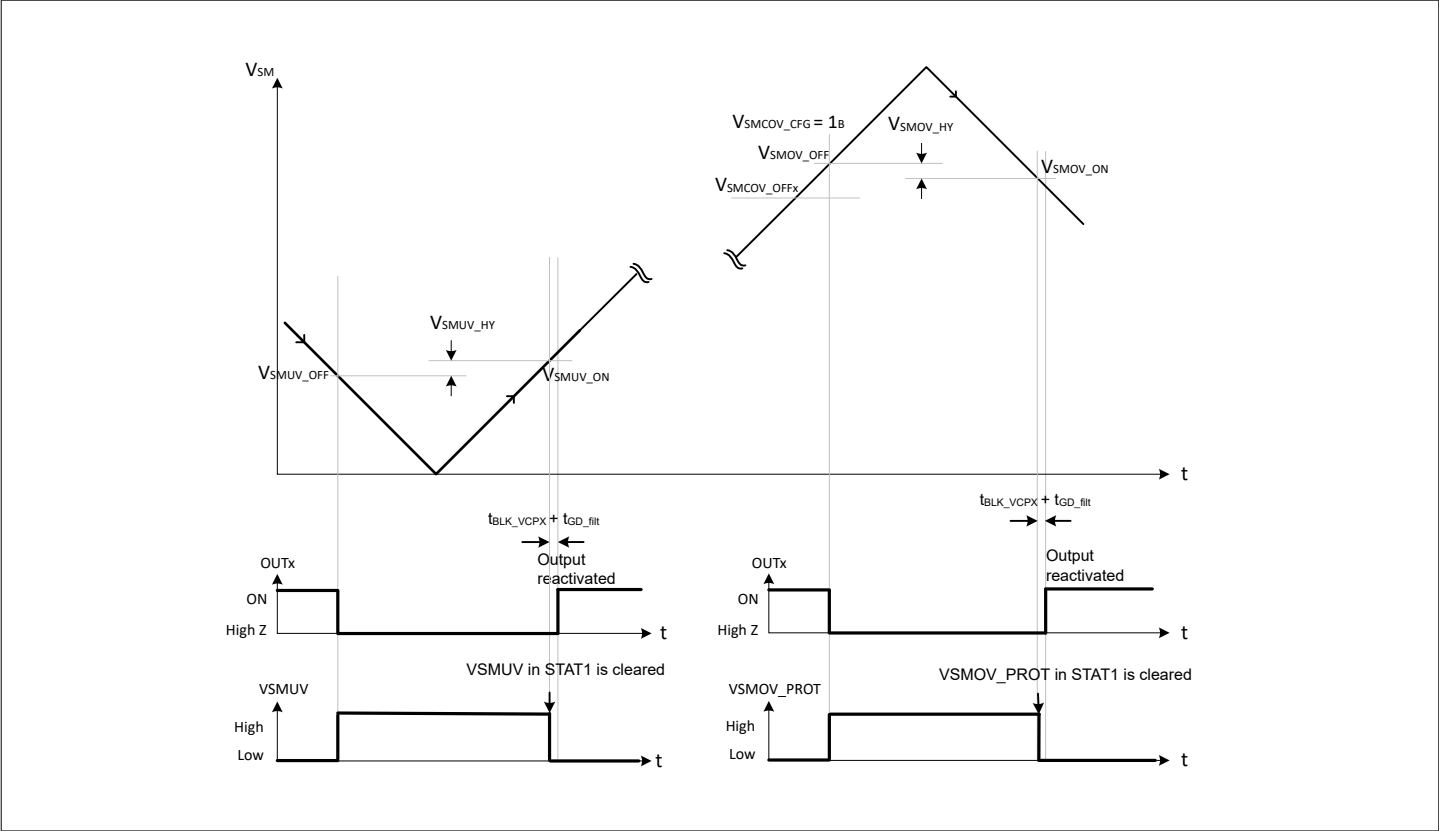
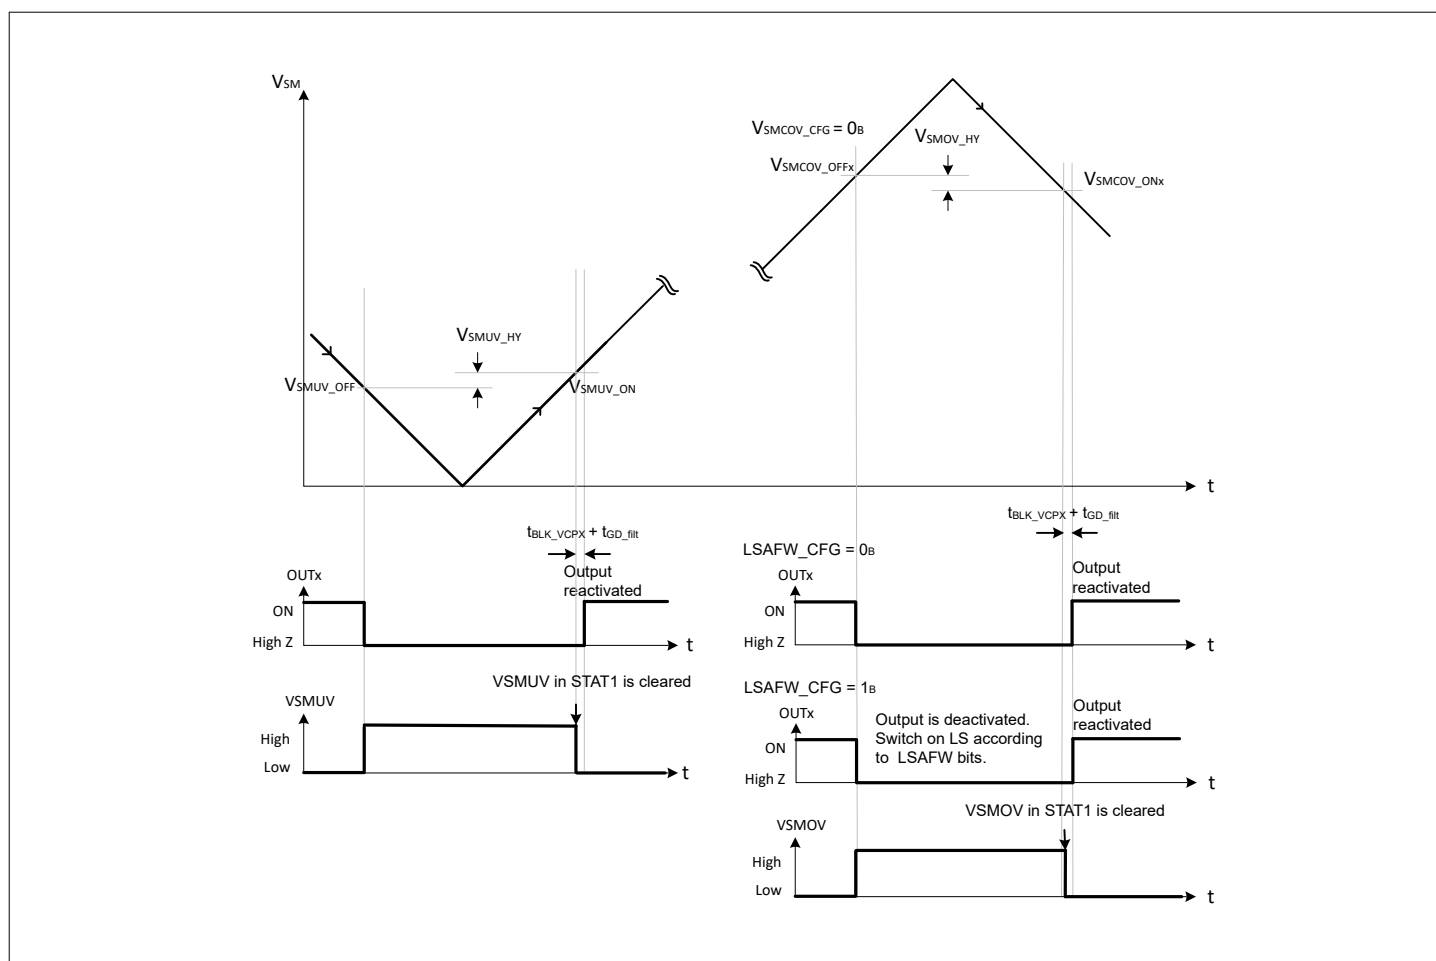

Figure 9 VSM monitoring
Figure 10 Configurable VSM monitoring
If VSM rises above V_{SMUV_ONx} as shown in Figure 9, after clearing the VSMUV bit the device resumes normal operation when t_{BLK_VCPx} and t_{GD_filt} expire.
- $VSM > V_{SMUV_ONx}$ (see Figure 9)
If VSM drops below $V_{SMOV_ON} / V_{SMCOV_ONx}$ as shown in Figure 9 and Figure 10, after clearing VSMOV_PROT bit and VSMOV bit the device will resume normal operation when t_{BLK_VCPX} and t_{GD_filt} expires.
- $VSM < V_{SMOV_ON}$ or $VSM < V_{SMCOV_ONx}$ when VSMOV_CFG is 0_B (see Figure 9 and Figure 10)